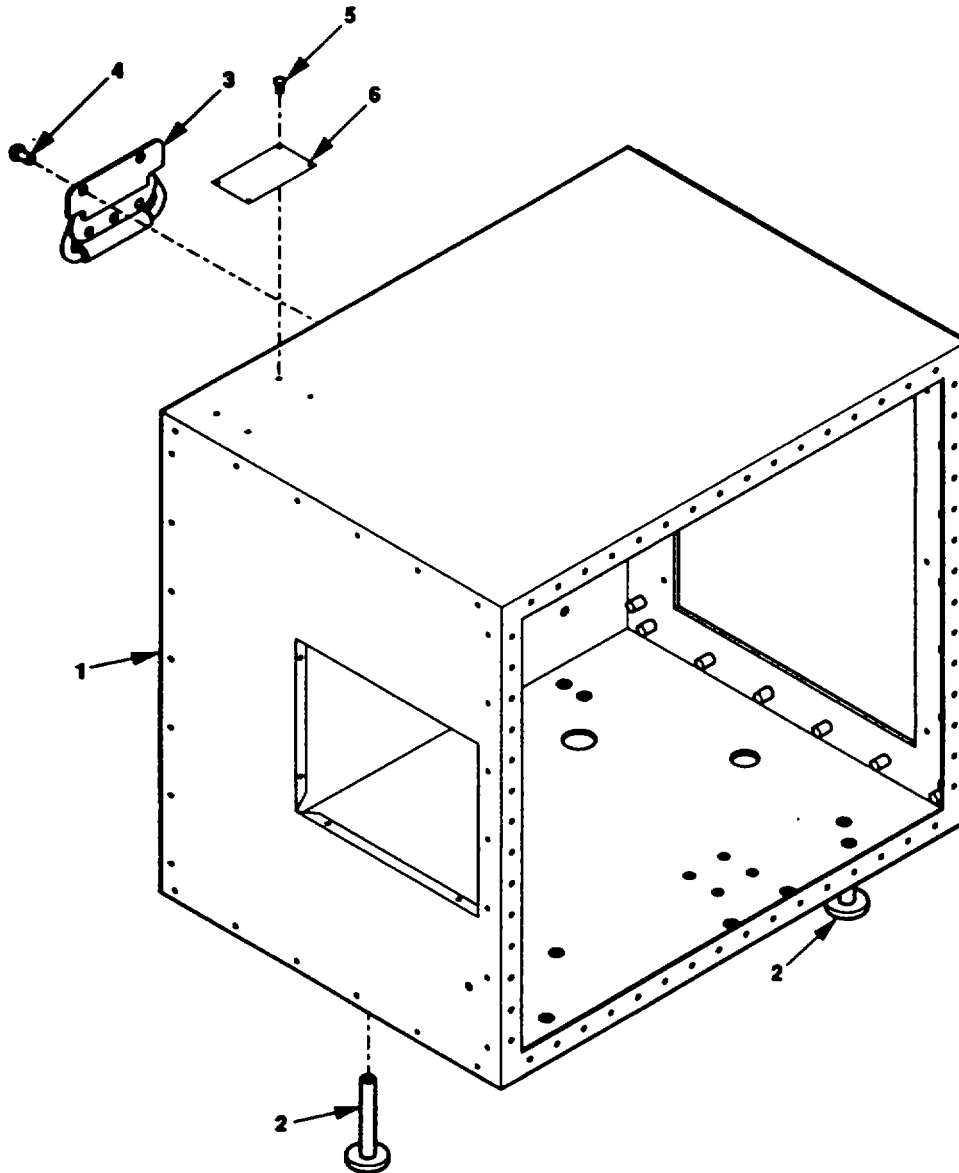

Figure 6-2. Evaporator Housing Maintenance.
a. **Remove.** Placing the evaporator housing (Figure 6-2, 1) in the equipment conditions specified above will remove it from the system.